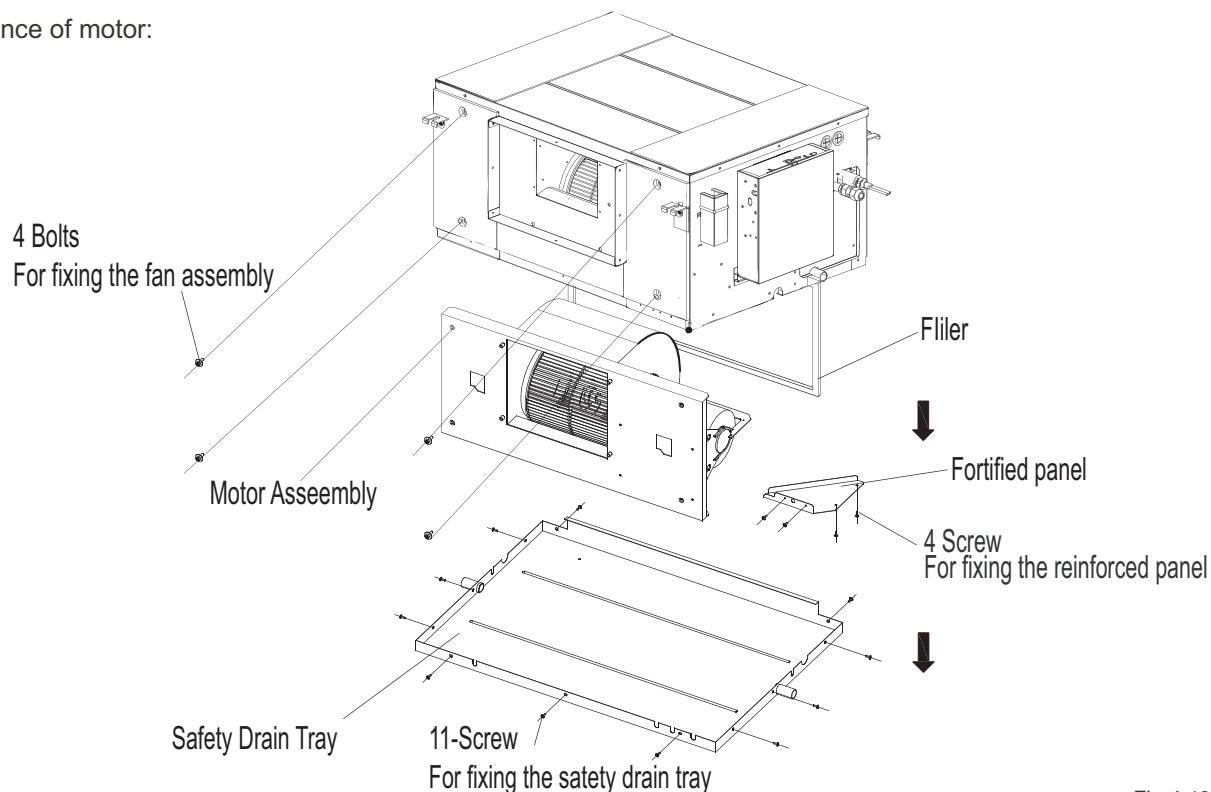
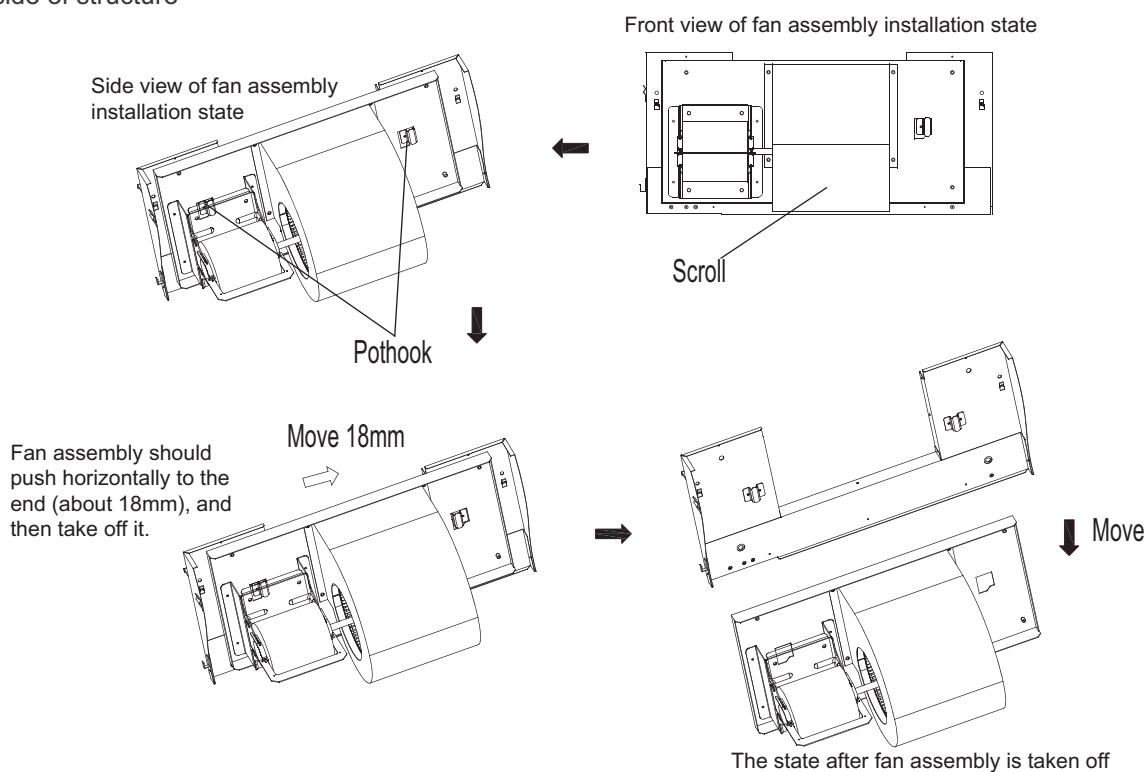

Fig.4-13
Fig.4-14
1. Refer to Fig.4-13, remove all 11 bolts from safety drain tray, and take off the safety drain tray.
2. Refer to Fig.4-13, remove all 4 bolts from reinforced panel, and take off the panel.
3. Refer to Fig.4-13, remove all 4 bolts from fan assembly, see Fig.4-14, according to which orders to take off the fan assembly.
4. Refer to Fig.4-14, horizontal pushing the fan assembly, until it cannot not move any further, and then lift up slightly and take down to remove it.